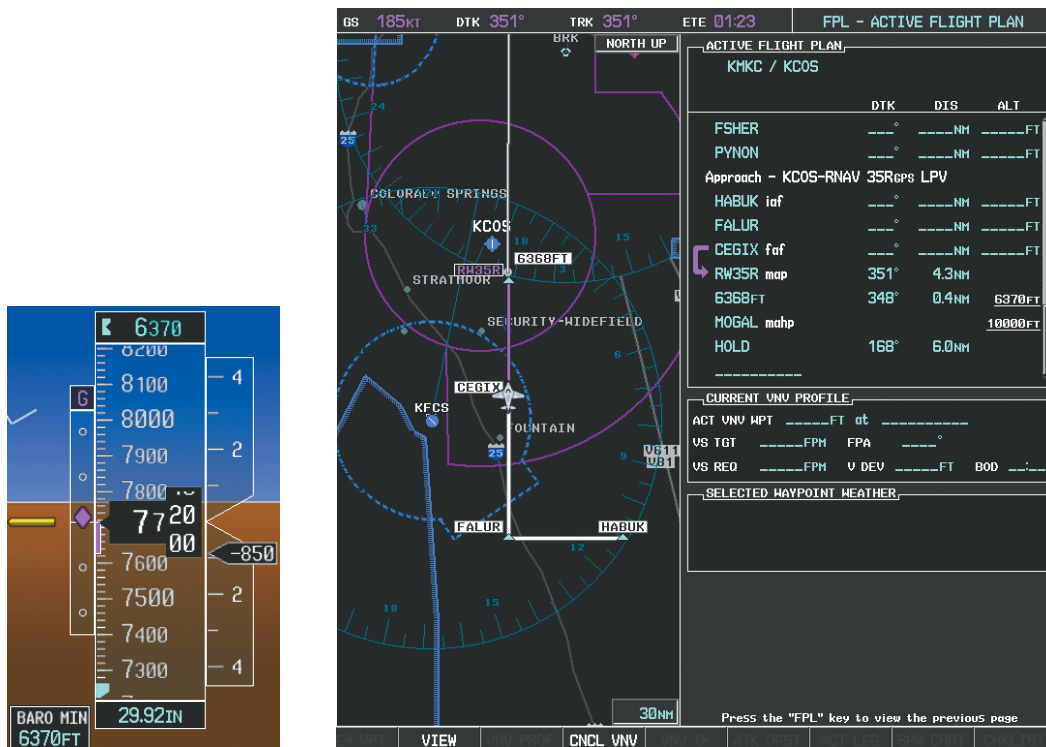

Figure 5-145 Descending to the Missed Approach Point
- 24) After crossing CEGIX, the aircraft continues following the glidepath to maintain the descent to "AT or ABOVE" 6,370 feet at the Missed Approach Point (MAP) (RW35R) as seen in Figure 5-145.